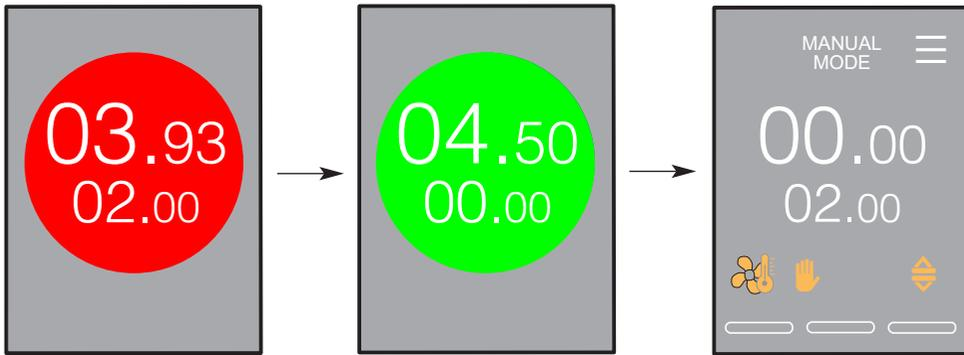

Fig. 5c
- 4 Press the start button with the filter holder (10, Fig. 1) and keep it pressed for the desired time that is shown on the display within a red light (see Fig. 5c). Once the start button is released, SweepOut is activated for the set time.